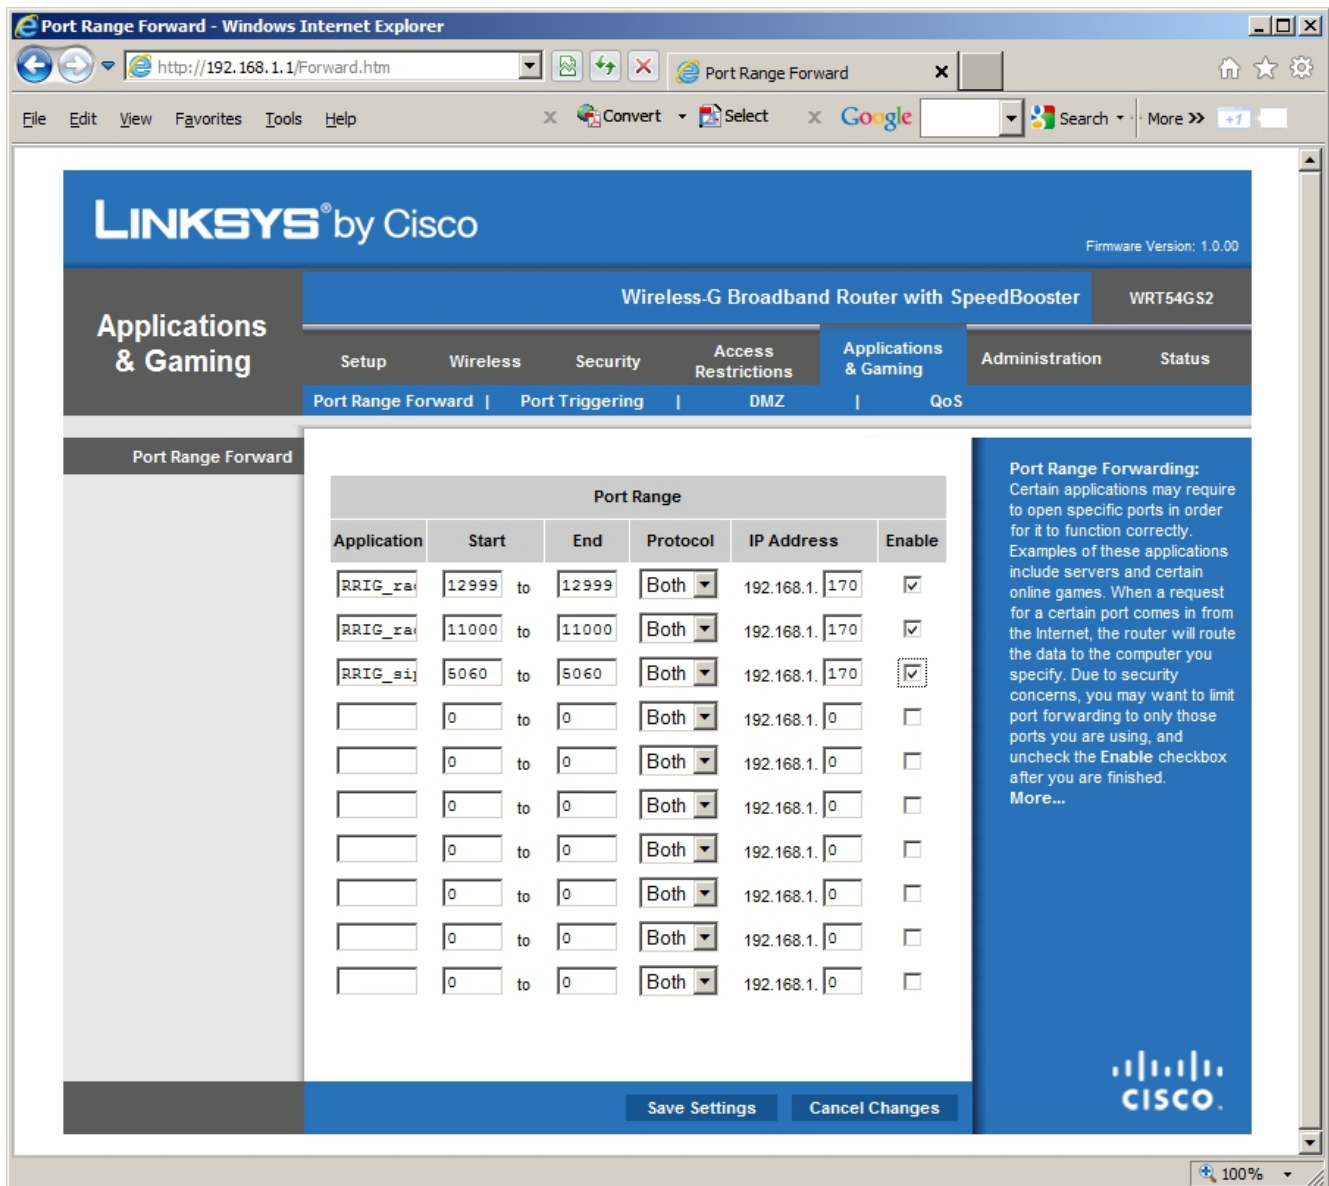

Figure 8
2. Locate the port forwarding page. On the Linksys router, this is under Applications and Gaming. With other routers, likely it will be under a similar heading. Enter the following data as shown in Figure 8. Be sure to check Enable for each entry, and then click on Save Settings to save the changes.